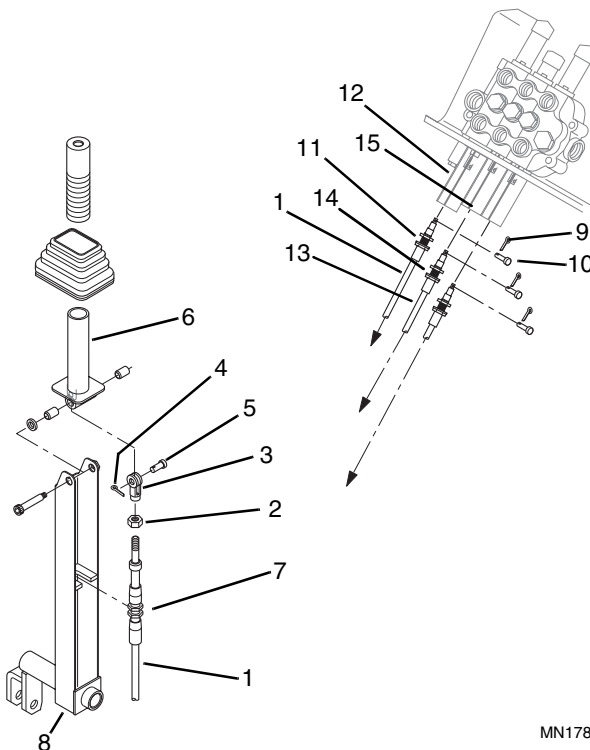

Figure 7-65 Wrist Control Cable Assembly
1. Insert the valve end of the control cable (Fig. 7-65, 1 or 13) into the control valve strap adapter (12 or 15), and loose install the jam nut (11 or 14).
7. Route the free end of the control cable into the bottom of the pivot lever (Fig. 7-65, 8), and push the cable into the slotted anchor bracket. Install and tighten the upper bulkhead nut (7) on the cable housing.
8. Secure the clevis (Fig. 7-65, 3) to the hand control lever (6) with the clevis pin (5) and spring clip (4).